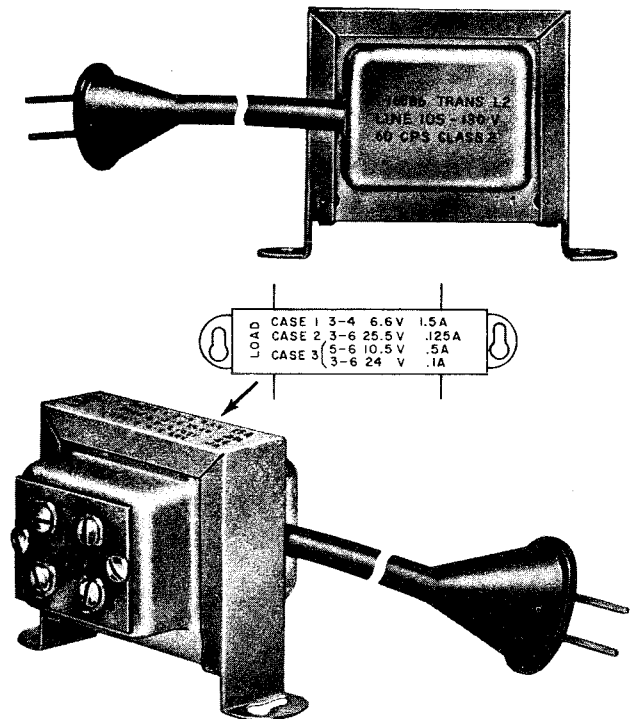

Fig. 8—KS-16886, List 2 Transformer
8.01 The KS-16886, List 2 transformer (Fig. 8) is primarily intended as the centralized power supply for multiphone dial light installations and home interphone systems requiring approximately 6 volts. It is capable of handling up to ten dial light stations. See Table B for wiring limits. Additional taps at 10.5, 24, and 25.5 volts are also provided for other possible uses. This transformer is self-protecting and has no fuses.